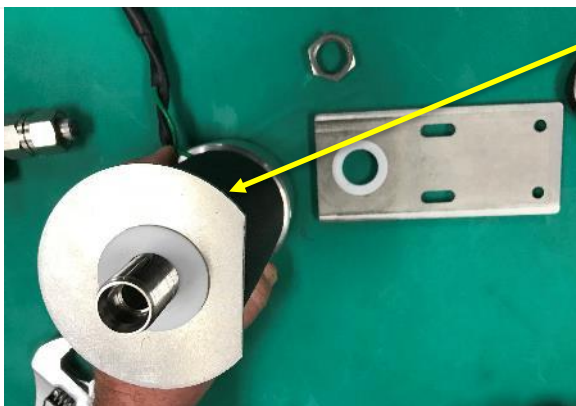

Figure 224. Remove Shield and Washer.
STEP 12 | Slide off the rain shield and washer and set it aside (**Figure 224**).